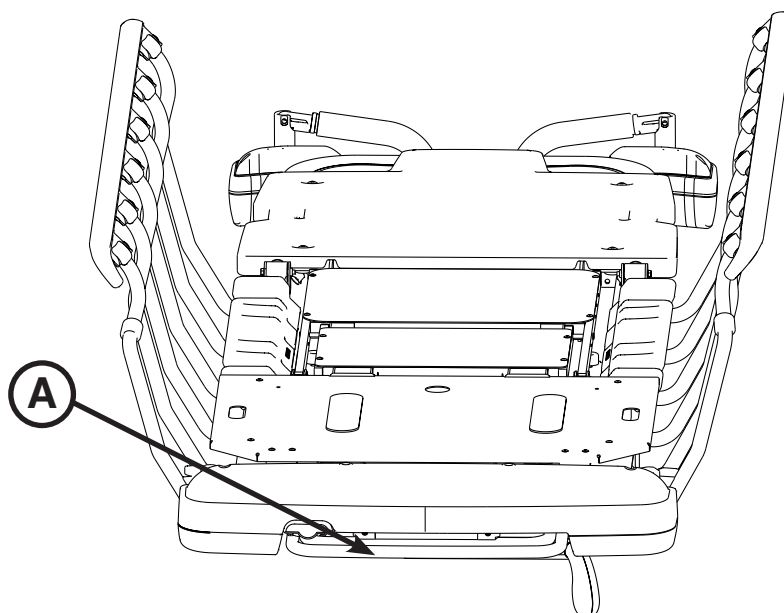

Figure 29: Pump Rack
The pump rack (A) can be used for the storage and transportation of stretcher equipment (Figure 29).